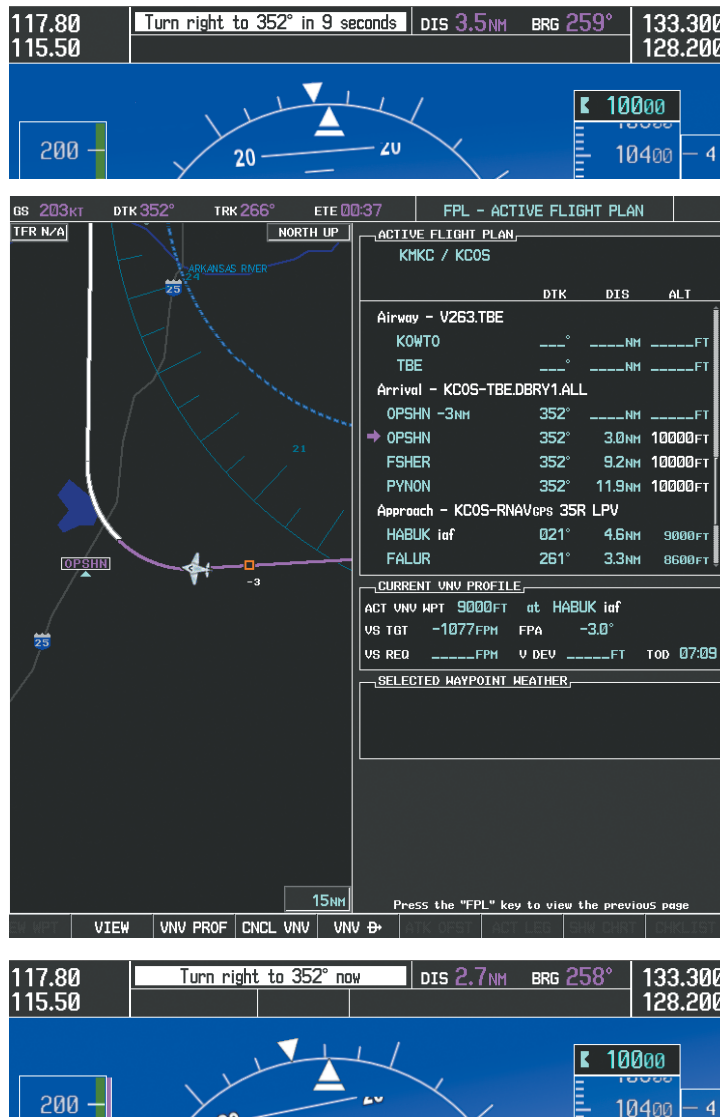

Figure 5-144 Turn to intercept OPSHN to FSHER Leg
- 18) The aircraft is approaching OPSHN. The upcoming turn and next heading are annunciated at the top left of the PFD as seen in Figure 5-144. Initiate the turn and maneuver the aircraft on a track through the turn radius to intercept the magenta line for the OPSHN to FSHER leg and center the CDI.